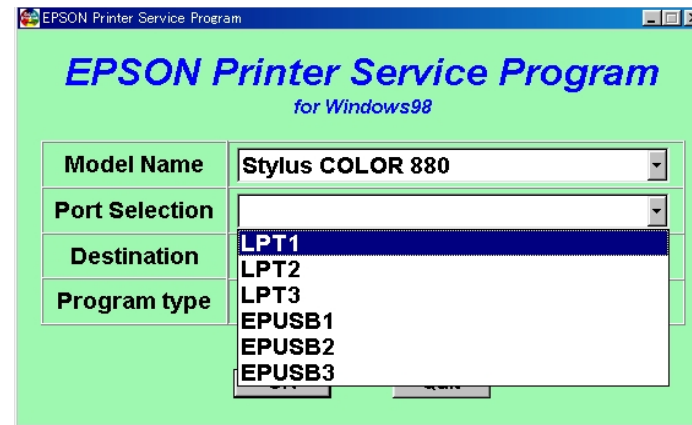

Figure 5-10. Model Name Selection
- 2) Select the Interface port which you connect the printer to your PC as above Figure 5-10.
If you want to exit this program, click the “Quit” button. Following menu is displayed on the screen. And clicking the “Quit” Button in the following menu exit the adjustment program completely. Clicking the “Next” button returns to the Top menu (Initial setting menu) of Figure 5-10.